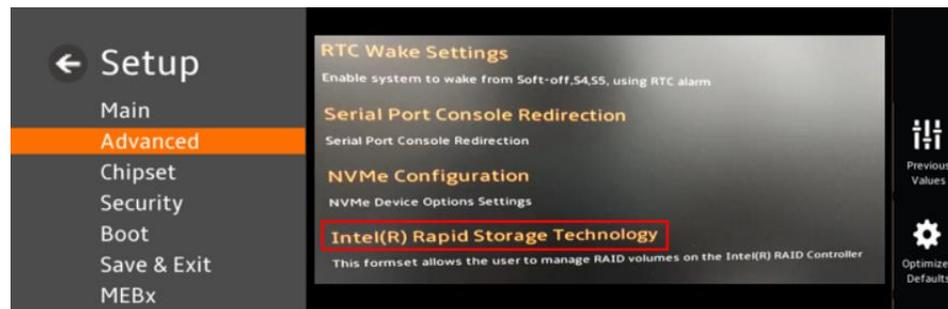

Figure 3-26: RAID Configuration–BIOS Setting (2)
Step 5: Configure the RAID settings in BIOS. Go to **Advanced** → **Intel® Rapid Storage Technology**. Use the option to configure the RAID array. (See Figure 3-26)